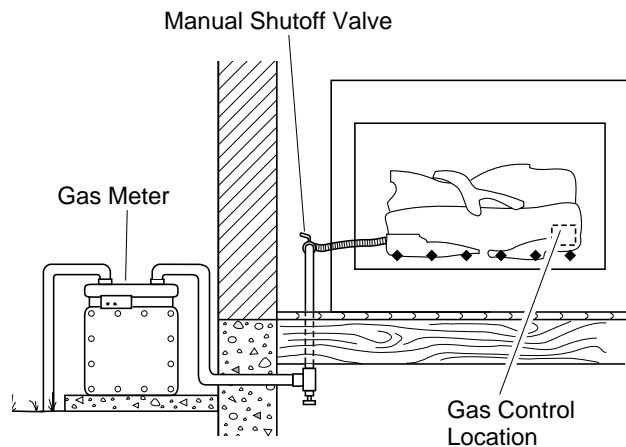

Figure 15 - Checking Gas Joints
3. Check all joints from gas meter to manual shutoff valve (see Figure 15). Apply mixture of liquid soap and water to gas joints. Bubbles forming show a leak.
4. Check all joints from manual shutoff valve to gas control (see Figure 15). Apply mixture of liquid soap and water to gas joints. Bubbles forming show a leak.